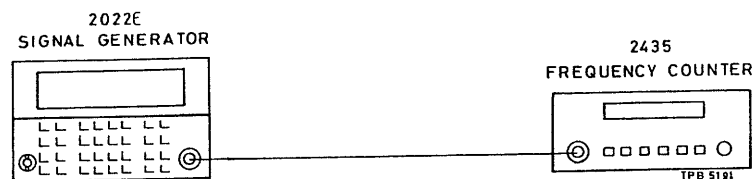

Fig. 5-2 Test gear arrangement to check frequency accuracy
(1) Connect test equipment as shown in Fig. 5-2 and set the 2022E controls as follows :